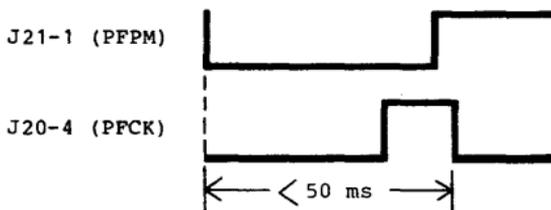

FIGURE 3
4. If the 6/8 LPI and slew speed are correct, then verification will be correct. Refer to figure 3 for correct adjustment.